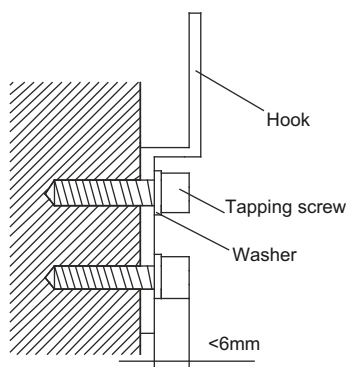

Fig.42-7
1. Fix the hook with tapping screw onto the wall. (Refer to Fig.42-7)